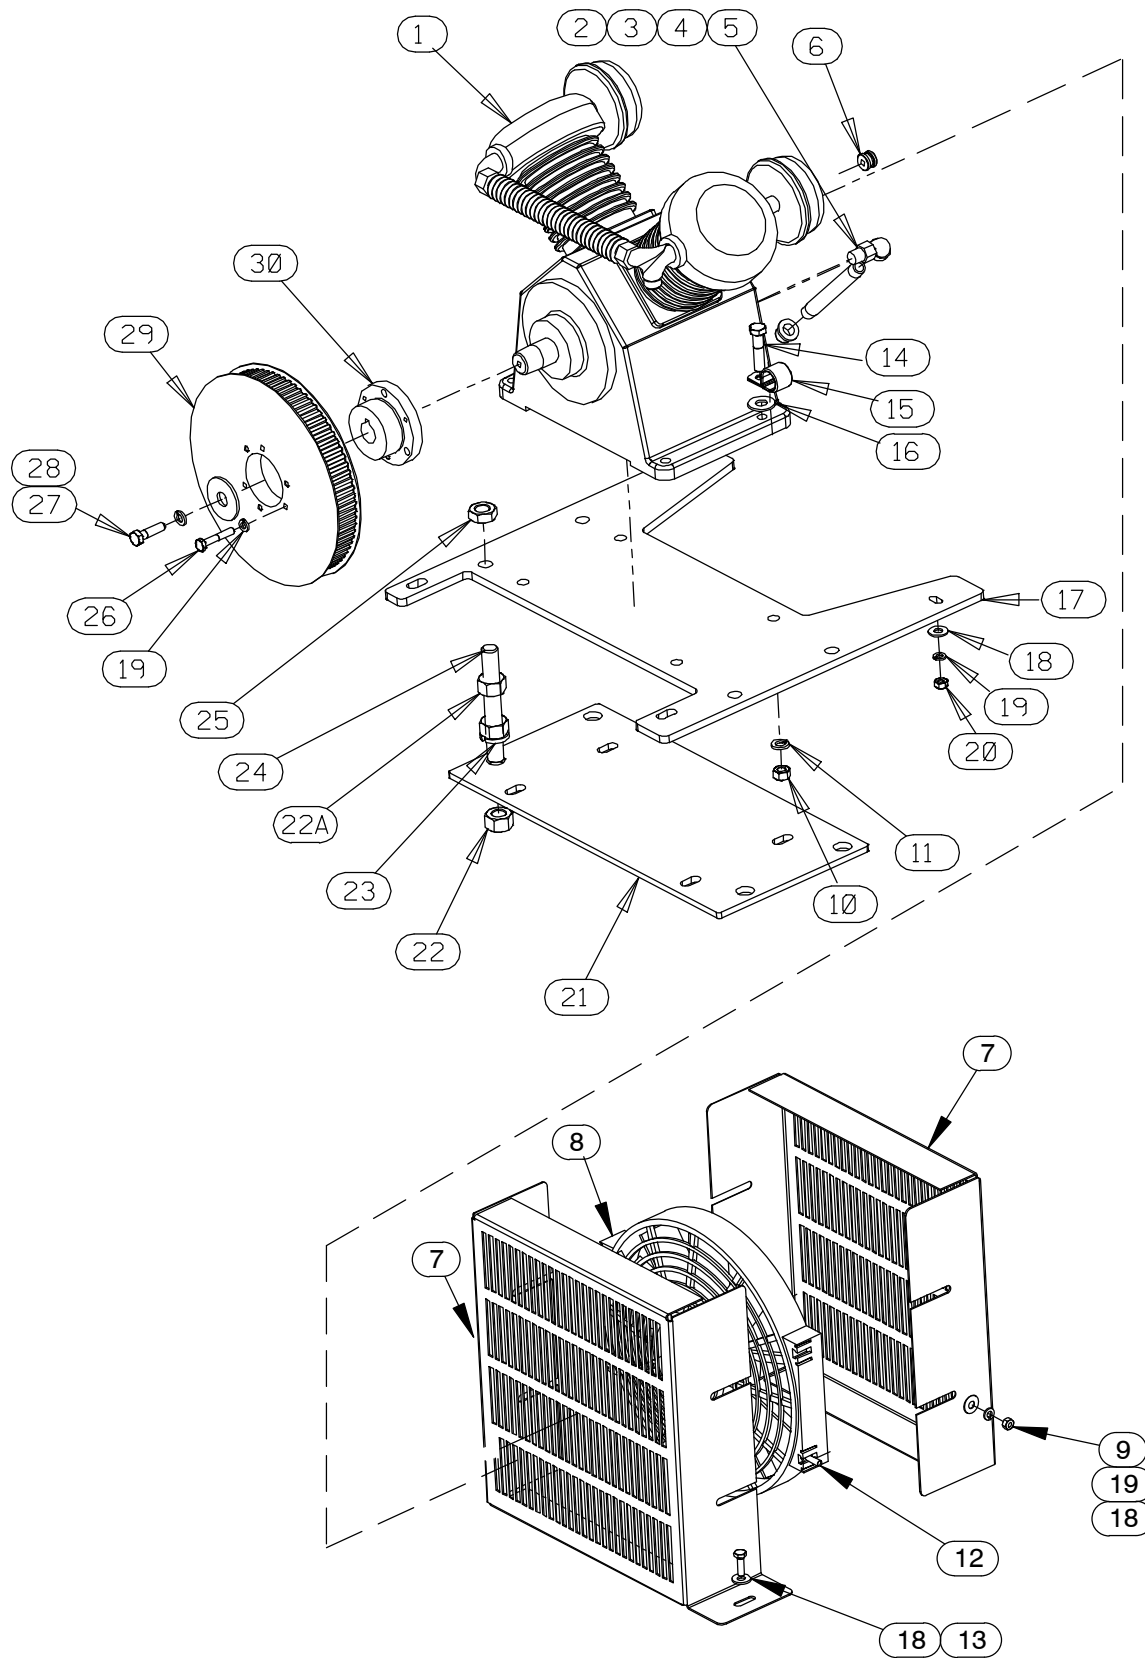

Figure 10. Air Compressor Assembly
See Figure 10 and loosen the nuts (22A) on the threaded rods (24) enough to be able to remove the belt (12, Figure 3) from the sprocket (29).
Remove the hardware (10 and 11) securing the mounting plate (21, Figure 10) to the rotating assembly mounting flange (20, Figure 5).